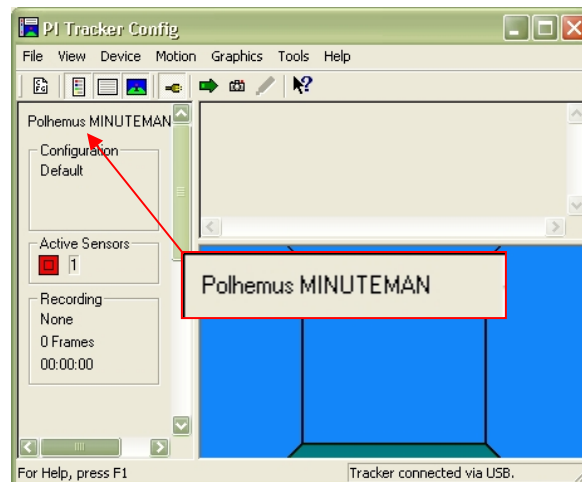

Figure 5 PI Tracker Config Screen
- ii. With the MINUTEMAN already attached via USB, PiMgr will automatically discover it (see Figure 5) and query its configuration: